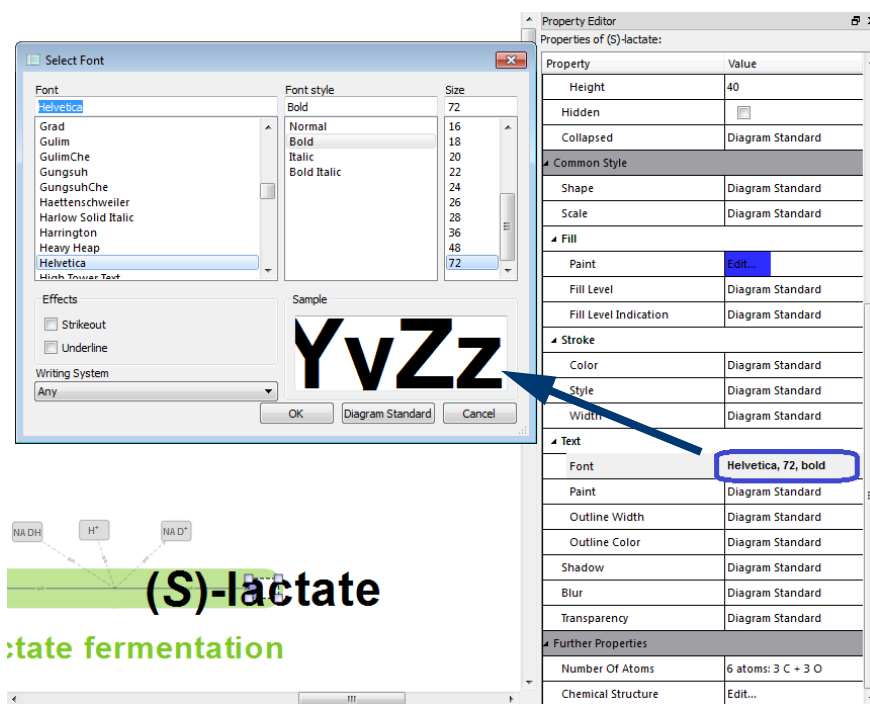

Figure 136 Edit the font properties of a metabolite in the property editor
- Click the cell for the **Font value** under *Common Style, Text* in the *Property Editor* window to edit properties of the font for this metabolite (Figure 136).